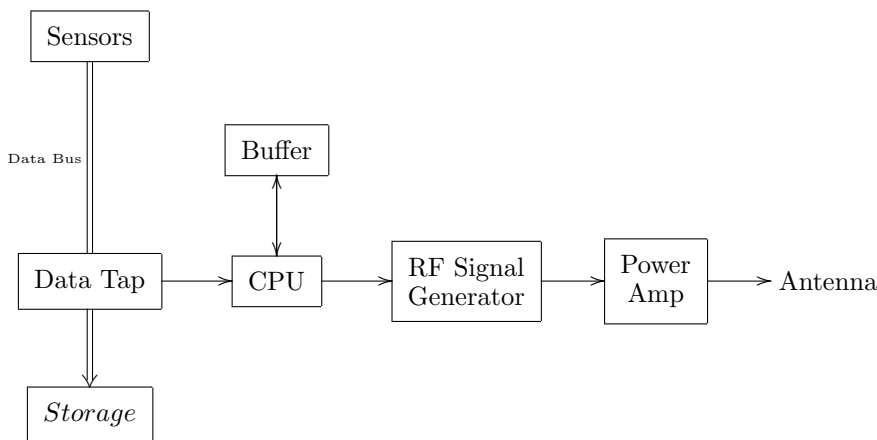

Figure 1: Initial Block Diagram of project
- Block diagram of project appears in Figure 1